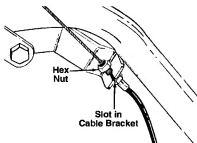

FIGURE 4.
2. Slip the wire through the slot on the cable bracket on the left handle. Push the end of the casing up through the cable bracket. Rethread the hex nut on the end of the cable casing. Do not tighten at this time. See figure 4.